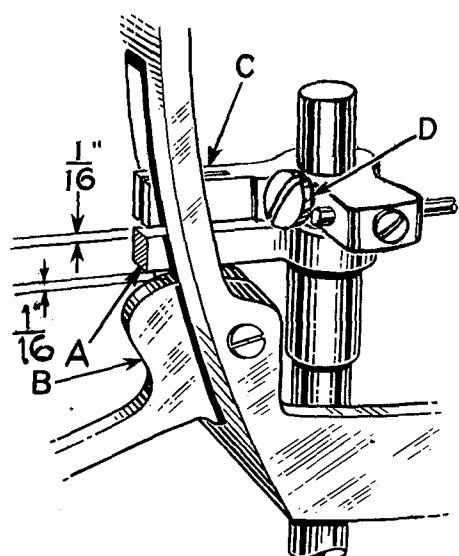

Fig. 8
The presser bar connection (A, Fig. 8) should be set so that it is 1/16 inch from the hand lifter (B) at all times.
When locating the presser bar guide (C, Fig. 8), the presser foot must rest directly against the throat plate with the feed dog in its lowest position.